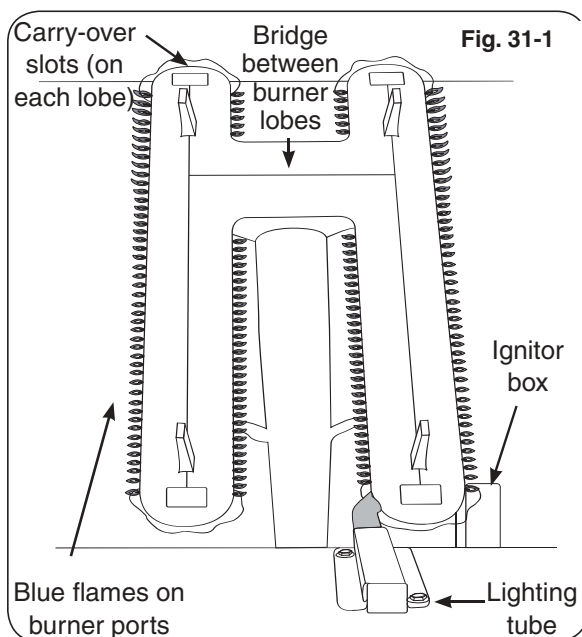

Fig. 31-1
Flames from a properly adjusted main burner with no wind or breeze present will appear fairly steady, consistent, and mostly blue. If the tip of a flame were to turn orange, it should only do so briefly and then become blue again. The flames will appear to burn while touching the burner ports (see Figure 31-1).
5. Repeat steps 1-4 until the flames appear to touch the burner ports, burning fairly steadily and mostly blue (see Fig. 31-1).